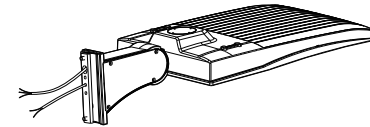

Figure 4
Step 2: Install the mounting on the fixture, then cover the side lid and tighten it. (Figure 4)